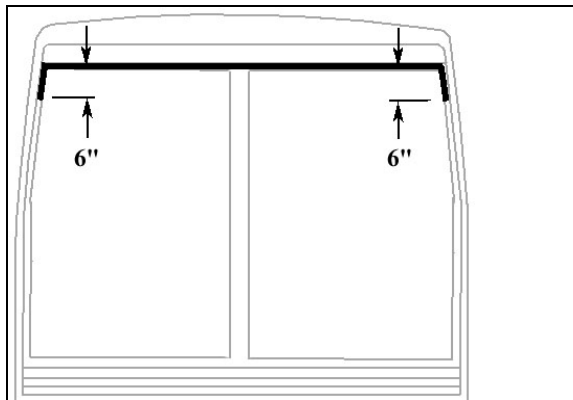

FIGURE 89: APPLICATION OF SIKA 221 BLACK
- Apply Sika 221 black (Figure 89) between fiberglass and rubber extrusion